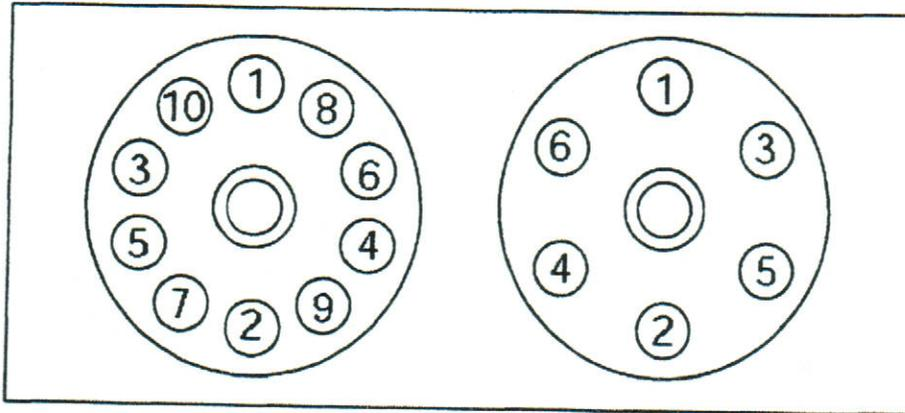

Figure 2: Nut Tightening Sequence for Stud Piloted Disc Wheels
- ii. Reinstall and retighten the inner cap nuts using the crisscross sequence shown below in Figure 2 using an impact wrench or wrench.
- iv. Install the outer cap nuts using the crisscross sequence shown below in Figure 2 using an impact wrench or wrench.